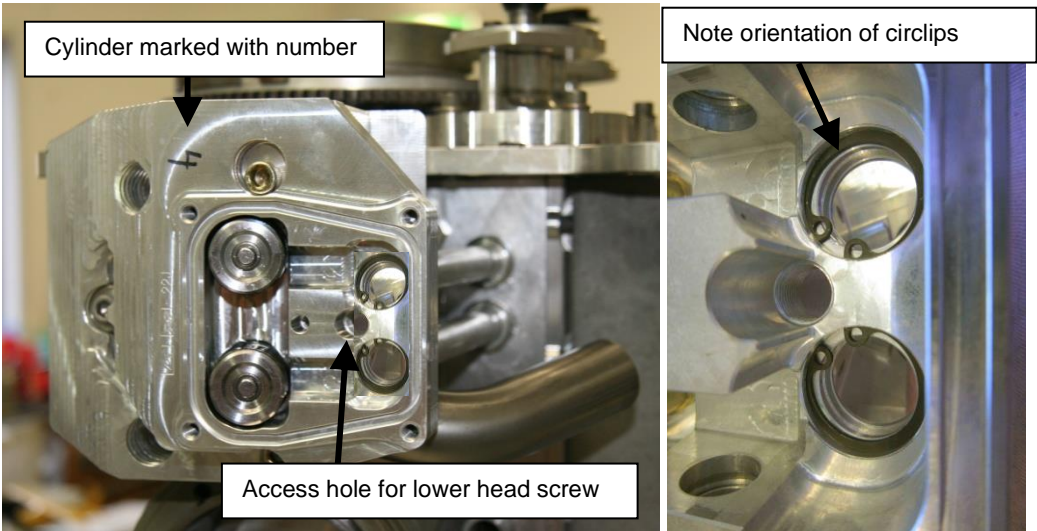
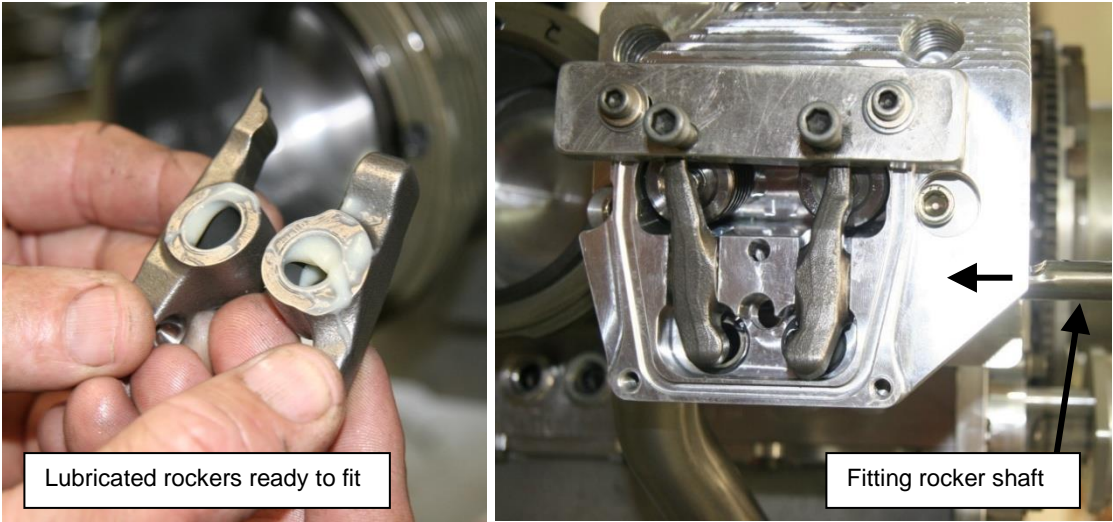

Figure 192 – Fitting Rockers #1
Figure 193 – Fitting Rockers #2
5. For hydraulic lifter engines, fit new O rings to the pushrod tube adaptors. Again these must be well lubricated with oil or Nulon L90. Fit the adaptors to the crankcase. See Figure 192 for circlip orientation.
9. Fit the cylinder head to the cylinder, feeding the pushrod tubes into the head – see Figure 192.
13. Fit the valve rockers, taking care that the pushrod is correctly seated into the sockets in the lifter and in the rocker. The rockers and the rocker shaft must be lubricated well with Nulon L90 or oil as shown in Figure 193 and then driven in using a suitable punch and a soft hammer. The shaft is punched in with the rounded end leading.
15. Tighten the cylinder head screws (6) to 15 lb.ft and then to the value specified in Table 9 using a standard diagonal tensioning pattern.
16. Fit the tapered blanking plug to the access hole for the lower cylinder head screw (shown in Figure 192 – left). Note that this plug must not be over-tightened. If the plug is done up too tightly then over time its tapered thread will wear the thread in the cylinder head, requiring it to be screwed in